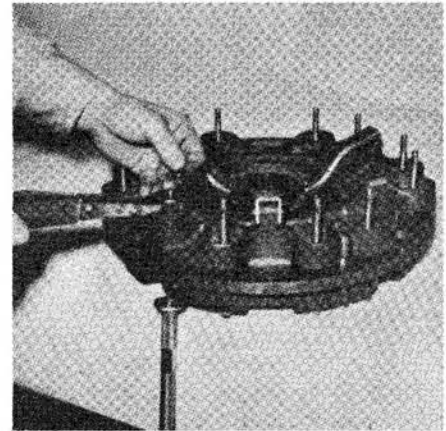
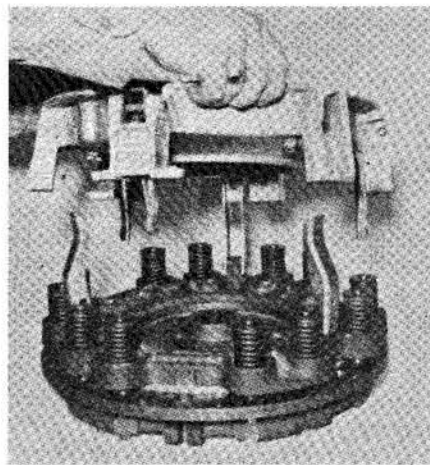
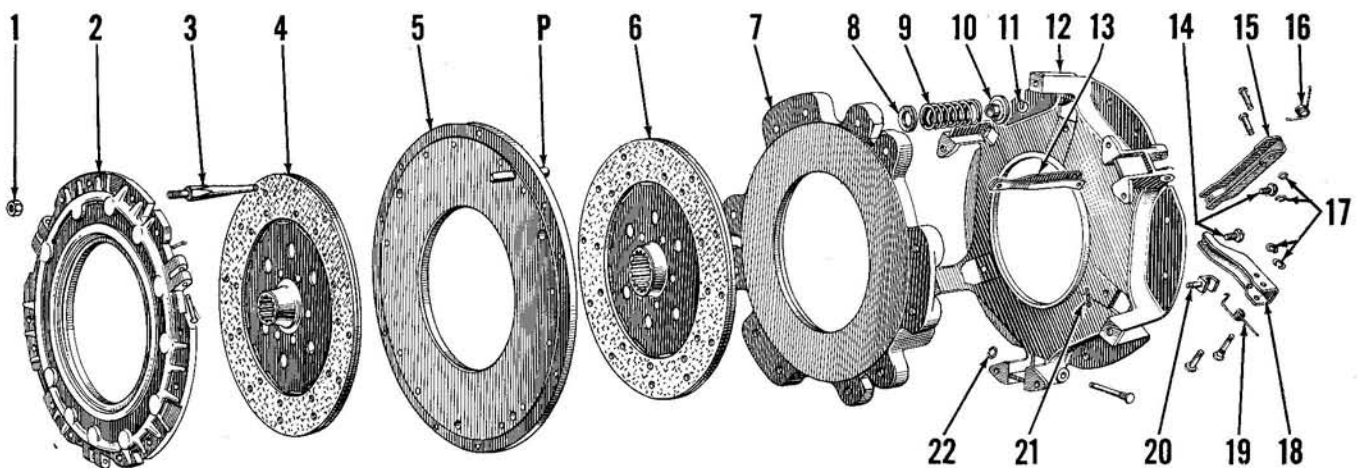

Fig. 113—Compress pressure springs with valve spring compressor to remove retainers.
Fig. 112—Removing cover from dual clutch assembly.
Fig. 111—Exploded view of typical dual ("live PTO") clutch assembly. When servicing unit, be sure that pins (P) are securely fastened in center plate (5).
With clutch assembly on bench with cover up, place correlation marks on the cover (11—Fig. 111), PTO clutch pressure plate (7), center drive plate (5) and the main (transmission) pressure plate (2) so that if not renewed, the parts may be reinstalled in same relative position. Remove the pins that retain actuating struts (13) to main pressure plate (2). Remove snap rings from pins that retain PTO clutch release (short) levers (18) in pivots (20) on clutch cover, then remove the pins and release lever springs (19). Remove the adjusting screws from PTO release levers, move levers to vertical position and lift off clutch cover with transmission release levers and struts attached; refer to Fig. 112. Compress the pressure springs with an overhead valve spring compressor and remove spring retainers (11—Fig. 111) as shown in Fig. 113. Then lift off the spring seats, springs and insulating washers. **CAUTION:** Do not attempt to release springs by unscrewing the self-locking nuts from
Renew the center drive plate (5—Fig. 111) if warped, scored or overheated or if any of the three driving pins (P) are loose in plate.